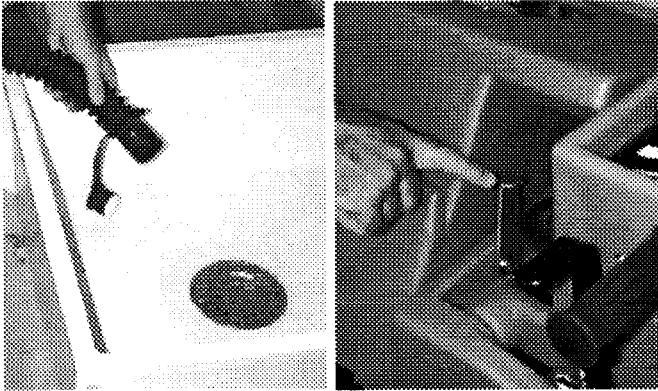

FIG. 18
1. Remove drain hose from holder, position hose over floor drain and twist off drain hose plug. To completely drain recovery tank, hinge open tank sideways and flip up tank support stand to rest tank on. (Figure 18)